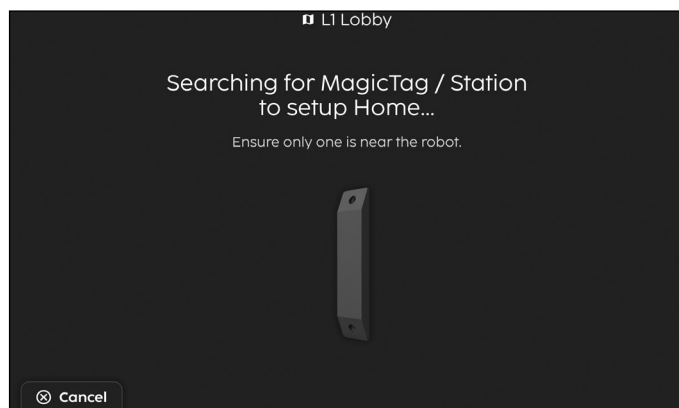

Figure 26
4. During the pairing process (Fig. 26) between the machine and MagicTag, ensure that only 1 MagicTag is within ~30 cm of the machine.